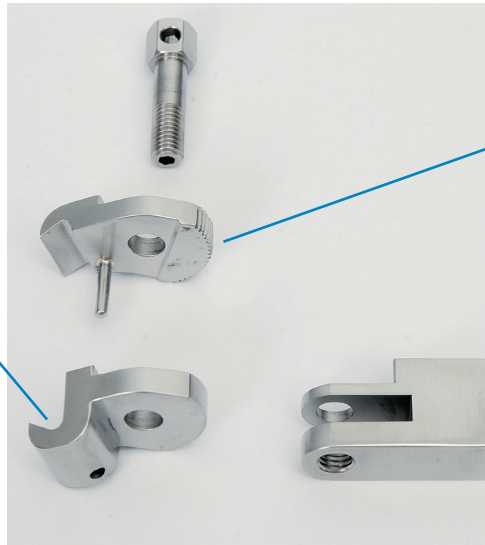

Figure 2: Disassembled state
1. Fully unthread the screw from the gripping jaws and separate the gripping jaws from the handle piece as shown in disassembled state (Figure 2).
1. To disassemble the Intraoperative Kinectiv Hip Stem Extractor, turn the handle counter-clockwise (as shown in Figure 1) until the whole unit is loosened and you can pull it apart (as shown in Figure 2).